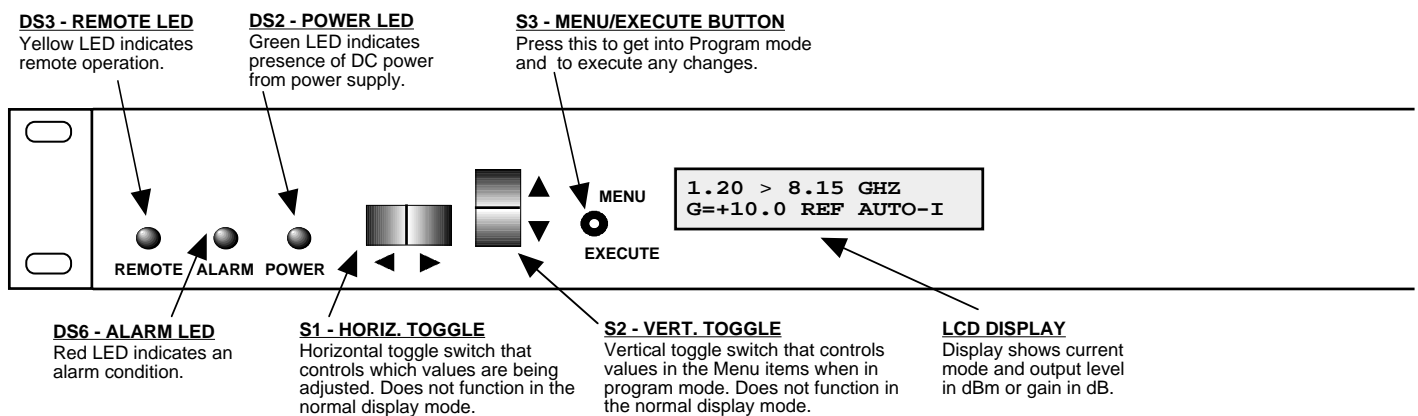

FIGURE 2.2 3115-79 Front Panel Controls and Indicators
Figure 2.2 shows the front panel controls and indicators.
5. Be sure DS2 (green, DC Power) is on and DS6 (red, Alarm) is off (Figure 2.2).
Alarm indications appear on the LEDs (see Figure 2.2).